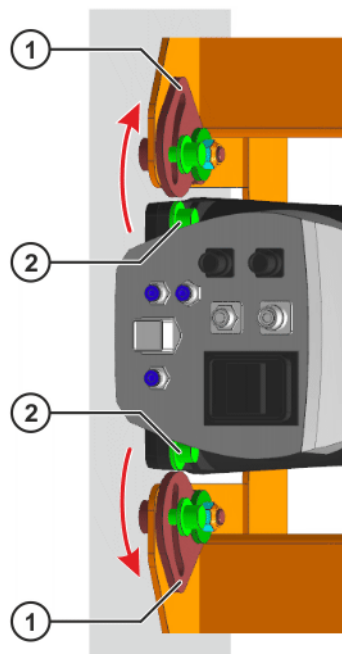

Fig. 8-8: Rotating the swivel holders outwards
15. Rotate the swivel holders outwards (>>> Fig. 8-8).